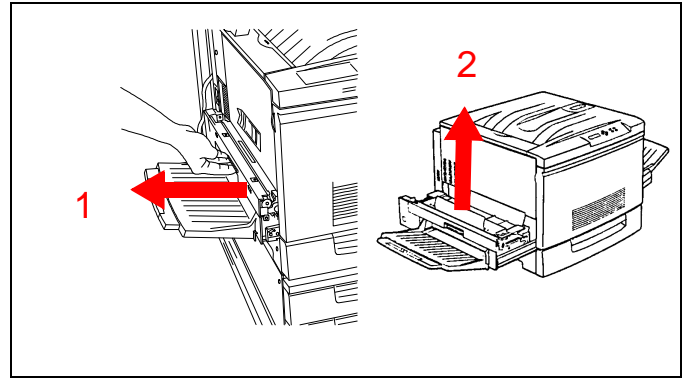

Figure 15
1. See Figure 15. Pull out the lower left side unit as far as it will go.